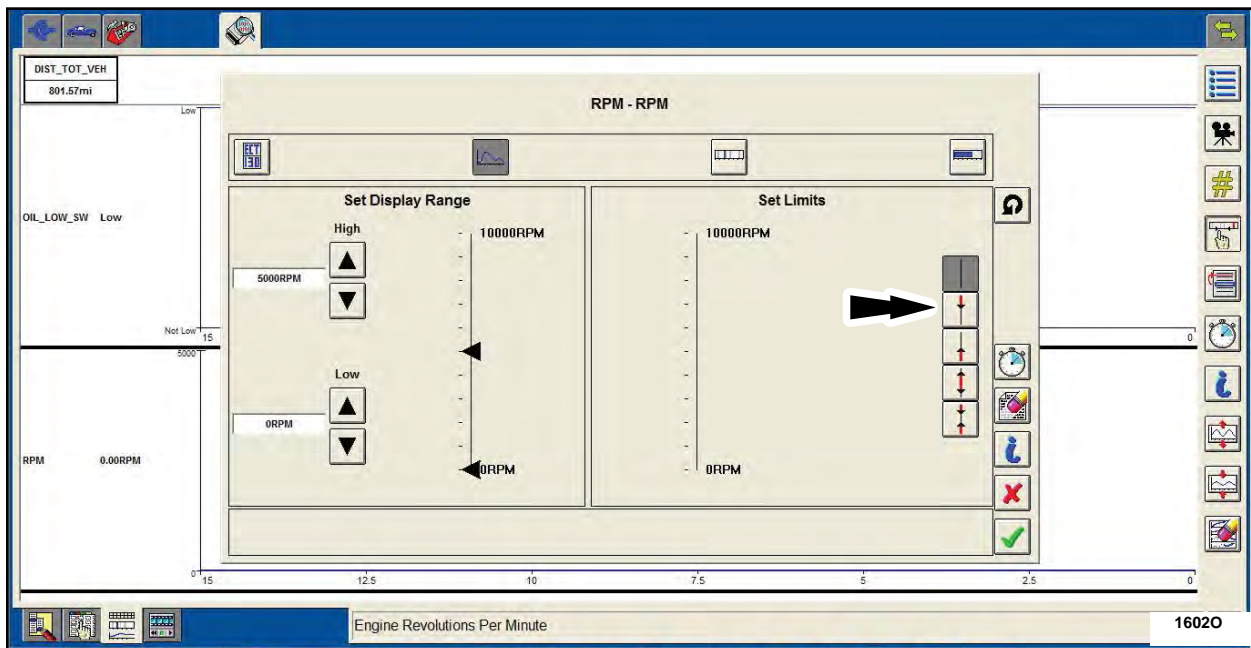

FIGURE 8
7. In the RPM PID dialog box, select upper limit button. See Figure 8.